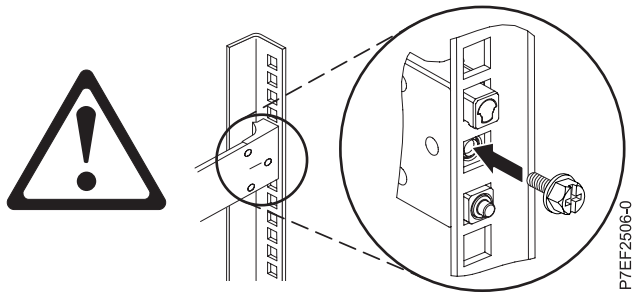

Figure 5. Reinstalling the screw
- Reinstall the screw that was removed in step 2 on page 5, as shown in Figure 5 on page 7.